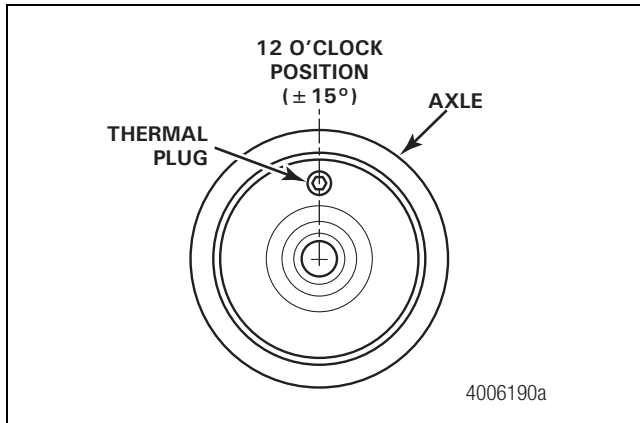

Figure 2.20
15. If you are installing an axle press plug fitted with a thermal plug for a ThermalALERT system, install the axle press plug with the thermal plug positioned at 12 o'clock (± 15 degrees). Figure 2.20.
- **If the axle press plug is fitted with a thermal plug for a ThermalALERT system:** Ensure that the thermal plug is located UP at the 12 o'clock (± 15 degrees) position when the axle is installed under the trailer. Figure 2.20.